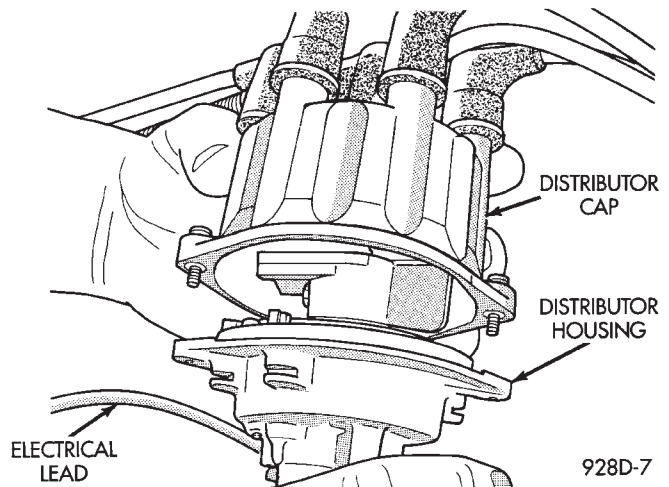
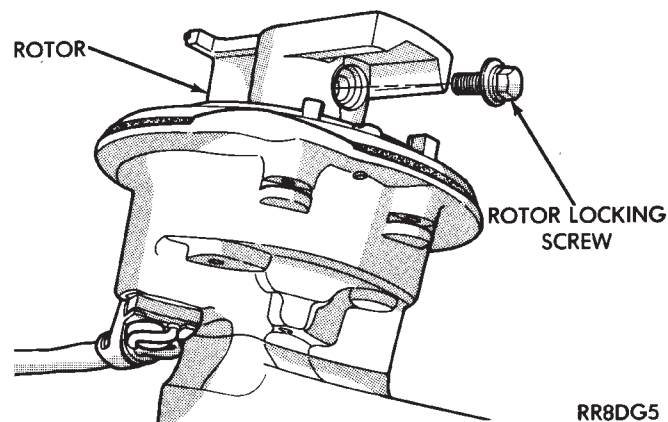

Fig. 21 Distributor Cap—3.0L Engine
Fig. 24 Rotor Screw
- (2) Loosen distributor cap retaining screws.
- (3) Lift cap off distributor (Fig. 21).
- (4) Rotate engine crankshaft until the distributor rotor points the intake manifold plenum. Scribe a mark on the plenum in line with the rotor. The scribe line indicates where to position the rotor when reinstalling the distributor.
- (1) Remove distributor cap mounting screws (Fig. 21).
- (2) Remove distributor cap and inspect for flash-over, cracked carbon button, cracked cap, or burned terminals. If any of these conditions exist, replace cap.
- (3) Remove rotor screw (Fig. 24). Inspect rotor for cracks or burned electrode. If any of these conditions exist, replace rotor.